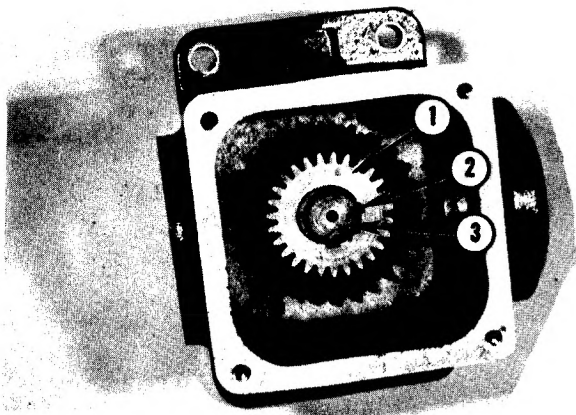

FIG. 10.13--OUTPUT GEAR INSTALLED
18. Install output gear with key and secure with retaining ring, Fig. 10.13.